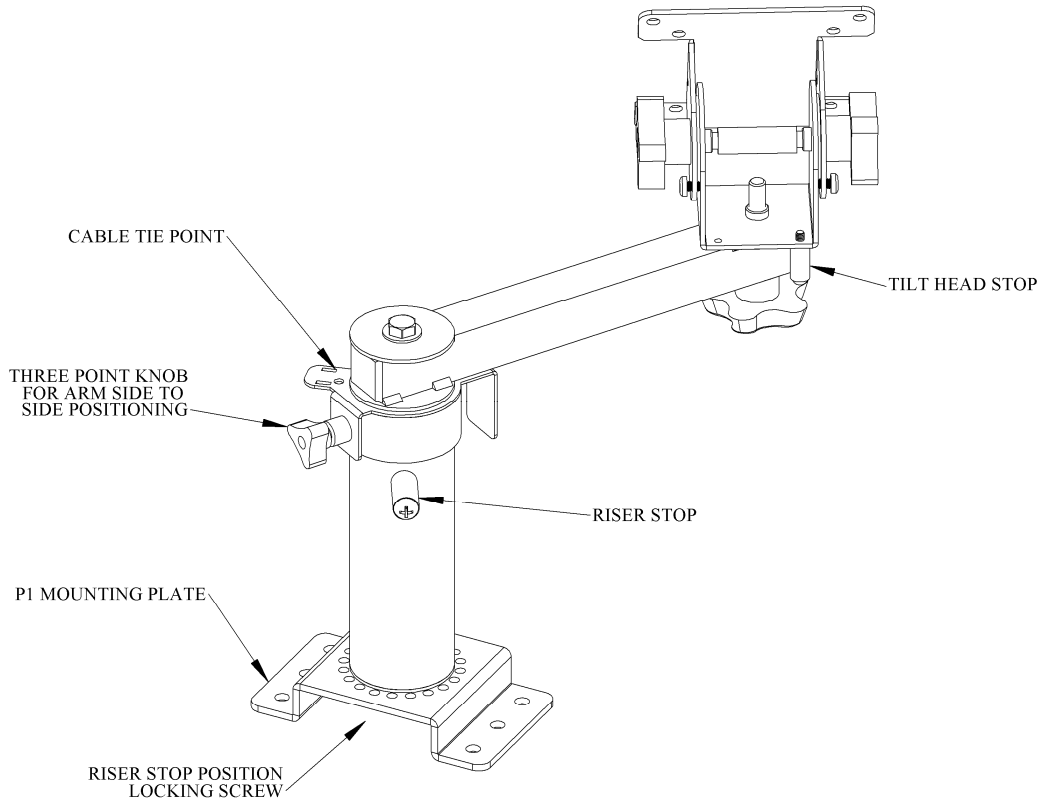

Figure 2 - UVHM-FM-R6-VESA
1. Preassemble the mount for the desired configuration with the tilt head and/or printer tray attached, but without the equipment installed (See Figure 2).
The tilt head stop keeps the tilt head from doing a full rotation around the end of the arm (See Figure 2). This protects the cabling that connects to the equipment from being wrapped around the tilt head and possibly becoming damaged. The tilt head is set at the factory to prevent the arm from being rotated one entire revolution to the left. If this setting is does not work for your application, the riser stop can be easily removed from the bottom of the tilt head with a Philips screwdriver, and installed on the other side.
1. Slightly loosen the three point knob on the side of the riser cap enough so that the arm will move freely (See Figure 2).
The riser stop keeps the arm from doing a full rotation around the riser (See Figure 2). This protects the cabling that connects to the equipment from being wrapped around the riser and possibly becoming damaged. The riser stop is set at the factory to prevent the arm from being rotated one entire revolution to the left. If this setting is does not work for your application, the riser stop can be easily adjusted.